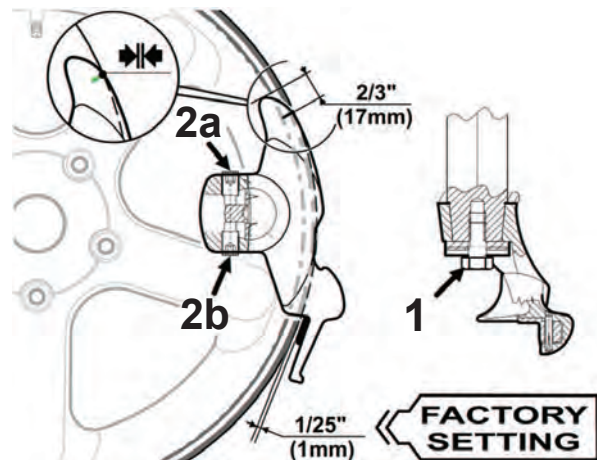

Fig. 4.1-5
2. Loosen the lower screw (1, Fig. 4.1-5).
3. Adjust the tool with the screws shown (2a and 2b, Fig. 4.1-5). Unscrew the screw (2a or 2b, Fig. 4.1-5) to rotate the tool, respectively clockwise or counter-clockwise.
5. Tighten the lower screw (1, Fig. 4.1-5) with a torque of 35 Nm.